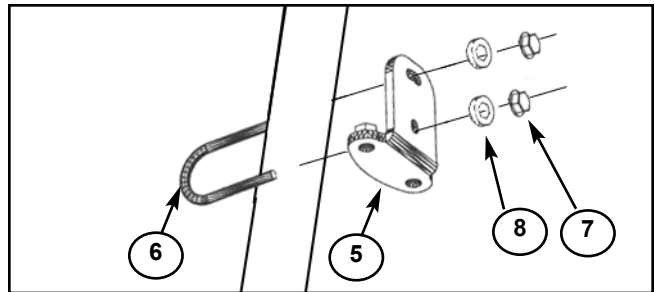
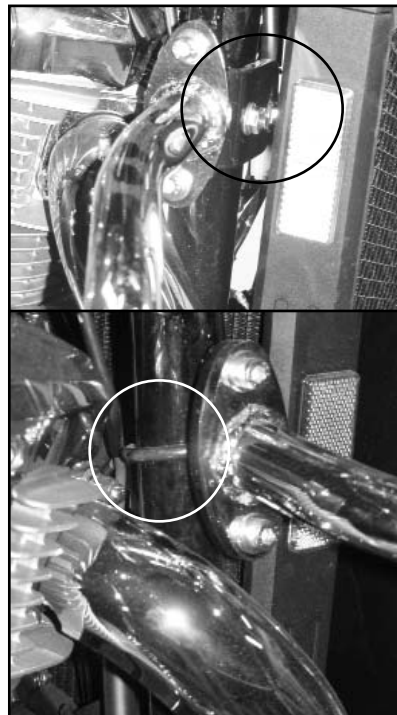

Figure 1
Figure 2
4. From the front, place the "U" Bolt on the frame down tube near the top of the engine. **Loosely** install Frame Bracket with Flat Washers and Whizlock Nuts (1/2" Wrench.) **Figure 1.** Orient assembly so Whizlock Nuts face radiator and "U" bolt faces engine. Do not tighten. **Figure 2.**